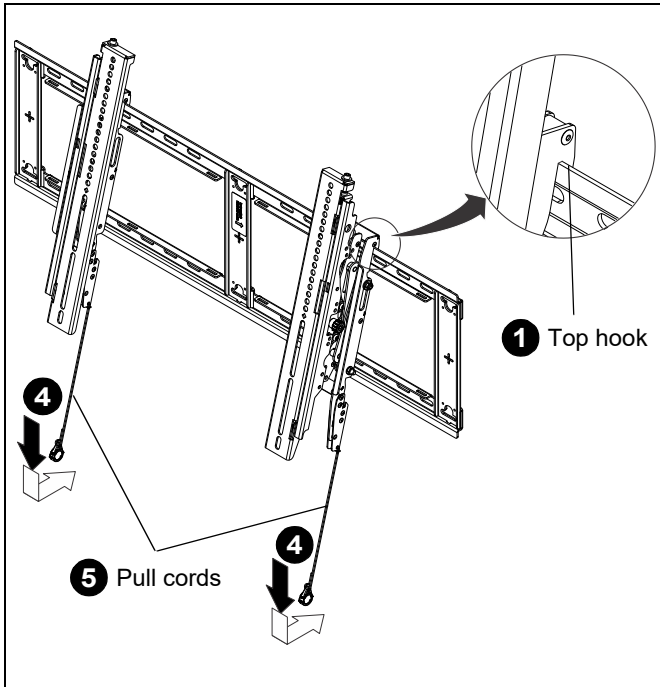

Figure 13
2. Hang screen onto the top rail of the mount (U). Hang top hooks of interface brackets (S and T) onto the top rail of the mount (U). (See Figure 13)
5. Pull downward on the pull cords and swing inward toward wall until a "click" is heard, latching interface brackets to lower rail and fastening bottom of screen to the mount (See Figure 13)
6. Attach end of pull cord (a magnet) to mount so it does not extend beyond bottom of screen. (See Figure 13)